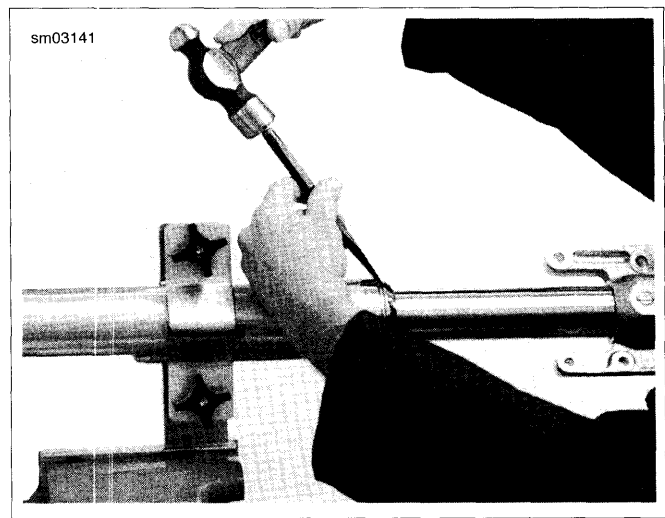

Figure 2-151. Remove Chrome Dust Cover
4. See Figure 2-151. Using a blunt soft object (such as a wood dowel or chisel with duct tape), gently tap chrome dust cover away from seat, remove dust seal, lock ring, fork seal, spacer, and bushing from fork tube. Then, expand fork tube and slider against each other (in a slider-hammer effect) repeatedly to free fork slider from fork tube. Use caution not to damage components.